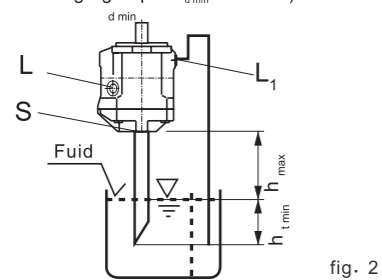

fig. 2
- b) If the minimum fluid level lies under the pump flange area then: ports L, and possibly S have to be piped as shown in fig. 2. Port L closed, as stated in section 1.2.1
Fill the pump casing with the pump lying horizontal before installation. (See fig.2)